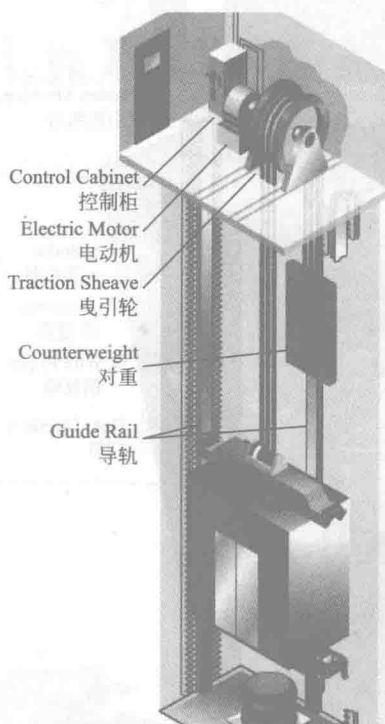

Figure1-5 Traction System (曳引系统)
The most popular elevator design is the traction elevator (or “roped elevator”). Traction elevators are much more versatile than hydraulic elevators, as well as more efficient. In traction elevators (as Figure 1-5 shows), the car is raised and lowered by traction steel ropes rather than pushed from below. The ropes are attached to the elevator car, and looped around the traction sheave (3). A traction sheave is just a pulley with grooves around the circumference. The sheave grips the hoist ropes, so when you rotate the sheave, the ropes